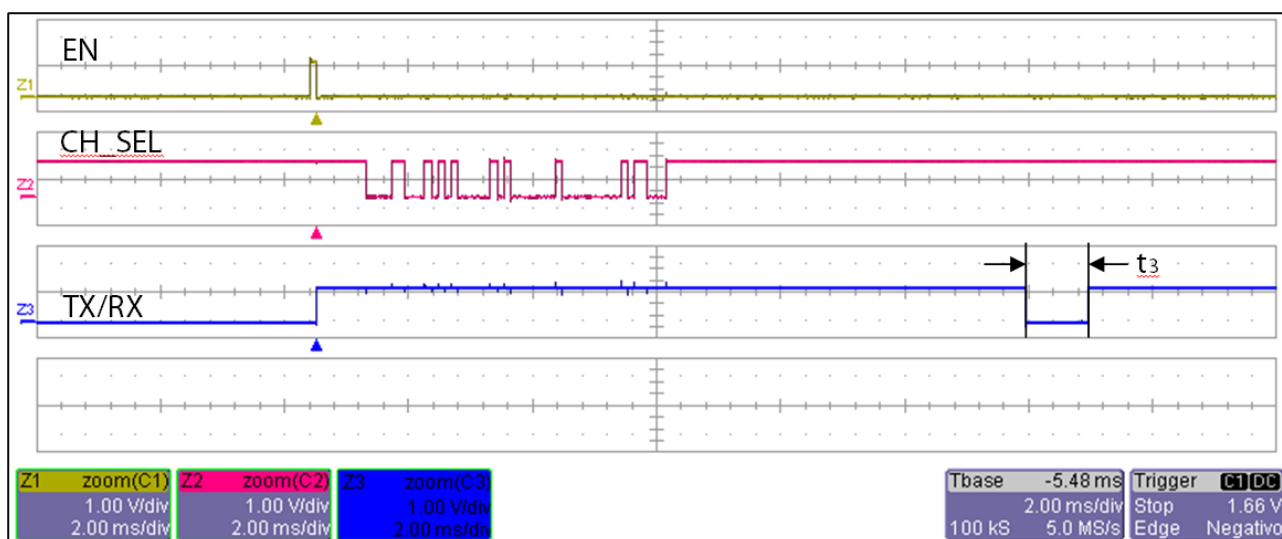

Figure 2: timings. $t_3 = 1 ms$ typ.
- **Feedback on the state of programming:** the transceiver is capable of returning a feedback in case of successful programming (ACK). To this purpose it is necessary to set the TX / RX line (pin 6) as input on the external microcontroller during the programming operation, with pull-up enabled. The line must be set this way within the end of the pulse t_1 on EN and the beginning of the transmission of serial data (end of t_2), and kept in pull-up for all the duration of programming phase. The ACK occurs as a negative pulse t_3 on the TX / RX line and has a duration of 1 ms (typical) (see Figure 2).